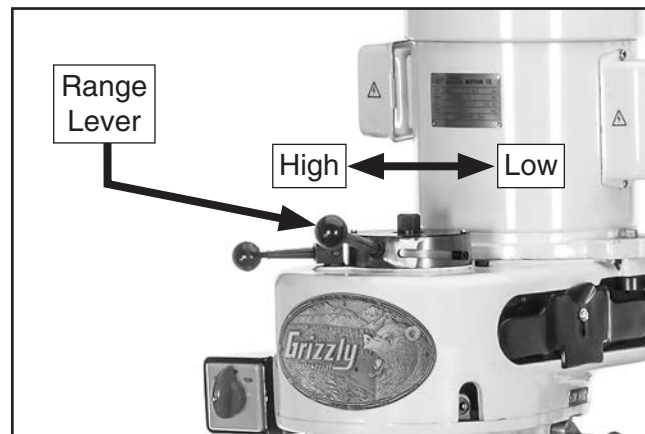

Figure 39. Model G0796 range lever.
4. Move range lever shown in **Figure 39** to HIGH or LOW position.